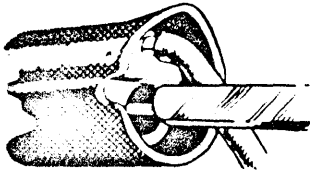

Figure 8-3b. Wire-Wrap Procedure
5. Hold the wire with the fingers and bend the insulated portion of the lead into the retaining notch in the sleeve (Figure 8-3b). Use the right or left notch as determined by the direction of the approach (or exit) of the lead. Place the wrapping bit on the terminal. Be sure the terminal is inserted into the bit as far as it will go. Use reasonable care to hold the tool in line with the terminal.